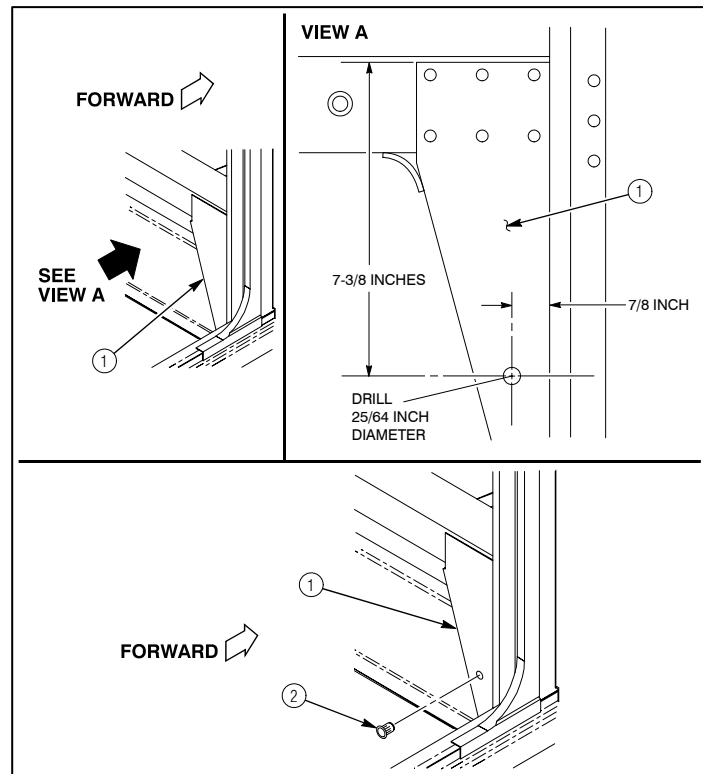

Figure 28
15. Locate and drill one 25/64 inch diameter hole in right side B-beam gusset (1) as shown in figure 28.
17. Install one 4397050-025 upset nut (2) in right side B-beam gusset (1) using blind rivet tool kit (NSN 5150-01-201-4978). Refer to figure 28.